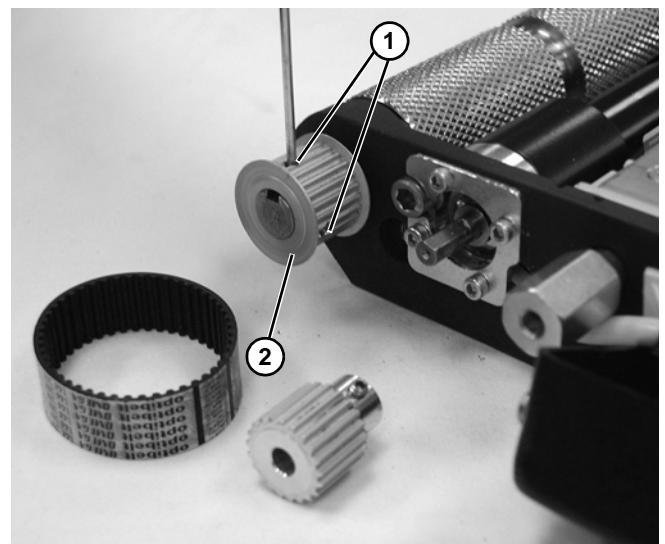

Figure 52
7. Loosen two set screws (Figure 52, item 1) on driven pulley (Figure 52, item 2), and slide off of shaft to remove.
8. Remove driven pulley (Figure 52, item 2).